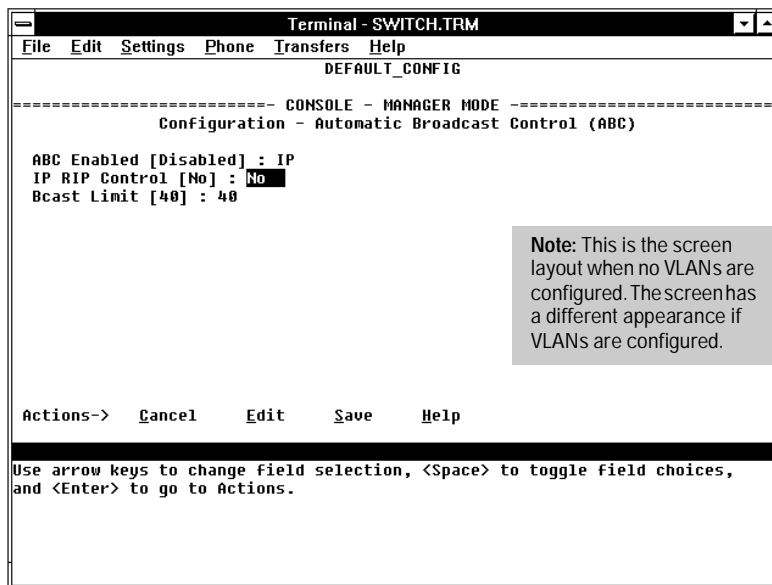

Figure 7-21. ABC Enabled With Default IP Option (No VLANs Configured)
- If you enabled ABC for IP (figure 7-21, below):